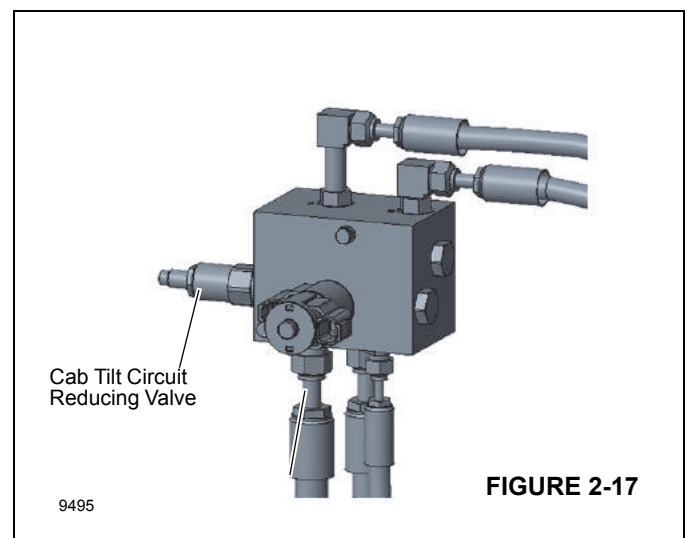

FIGURE 2-17
- 1. The Cab Tilt Cylinder circuit has a single reducing valve in the cab tilt manifold with a setting of 138 bar (2000 psi) as shown in (Figure 2-17).